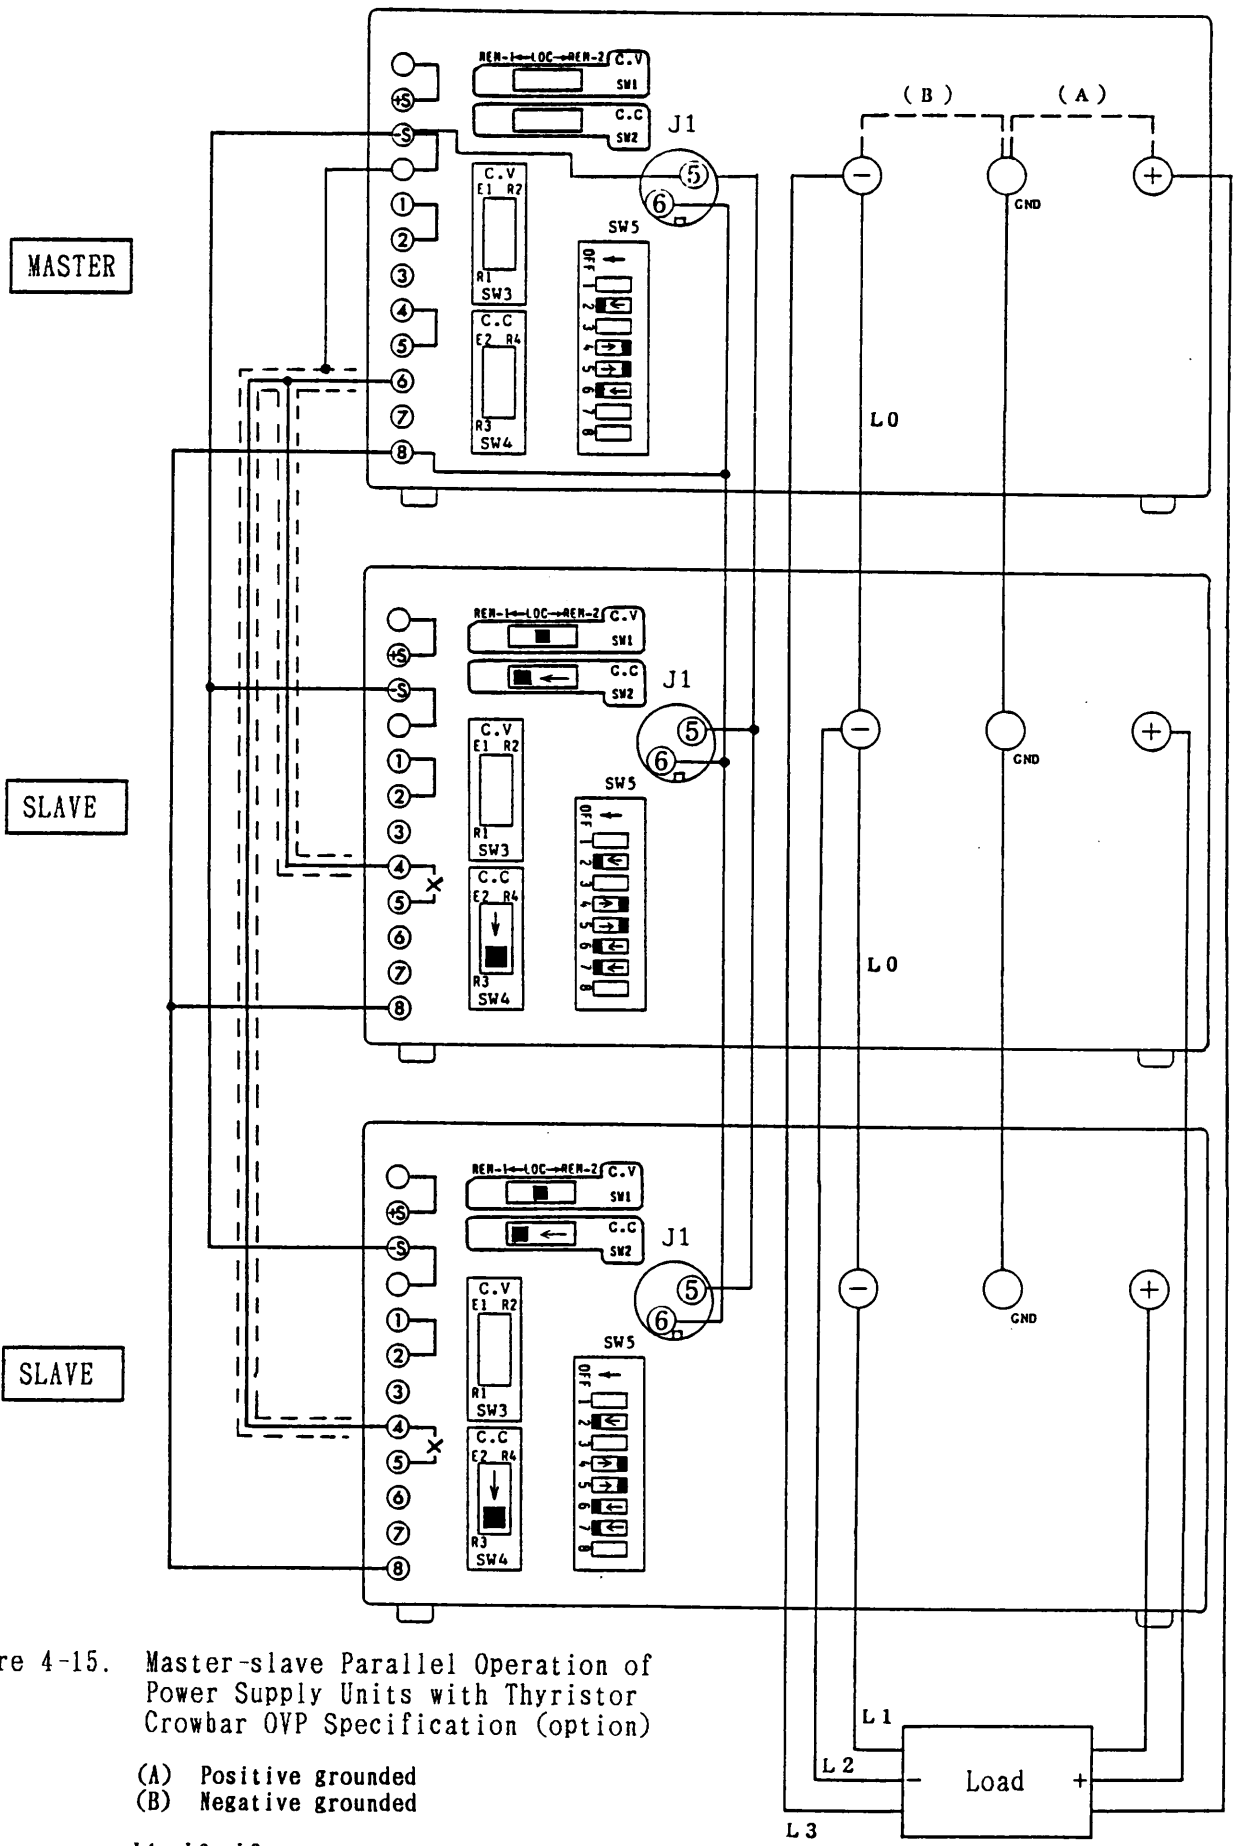

Figure 4-15. Master-slave Parallel Operation of Power Supply Units with Thyristor Crowbar OVP Specification (option)
- (8) Connect in parallel the DIN connector (J1) pins 5 of all units as shown in Figure 4-15.
- (9) Connect in parallel the DIN connector (J1) pins 6 of all units as shown in Figure 4-15.
- (10) Connect in parallel the terminals ⑦ of the rear terminal blocks of all units as shown in Figure 4-15.
- (11) Connect in parallel the ⑤ terminals of the rear terminal blocks of all units as shown in Figure 4-15.
- (12) Connect the DIN connector (J1) pin 5 of the master unit to the ⑤ terminal of the rear terminal block.
- (13) Connect the DIN connector (J1) pin 6 of the master unit to terminal ⑦ of the rear terminal block.
- (14) Turn fully counterclockwise the voltage setting knob of each slave unit.
- (15) For the remote sensing mode or the remote control mode of operation, control the master unit alone.
- (16) For the remote sensing mode of operation, connect in parallel the ⑤ and ⑥ terminals of units and disconnect their jumper wires from between terminals ⑤ and ⊕ and between ⑤ and ⊖ terminals.
- (17) Regarding the switches for which no settings are specified in Figure 4-15, set them to the standard states as shown in Figure 2-19 (See Section 2.4.) or to appropriate states for respective modes (See Sections 4.1 through 4.11.).
- (11) Connect in parallel the DIN connector (J1) pins 5 of all units as shown in Figure 4-15.
- (12) Connect in parallel the DIN connector (J1) pins 6 of all units as shown in Figure 4-15.
- (13) Connect in parallel the terminals ⑧ of the rear terminal blocks of all units as shown in Figure 4-15.
- (14) Connect in parallel the ⑨ terminals of the rear terminal blocks of all units as shown in Figure 4-15.
- (15) Connect the DIN connector (J1) pin 5 of the master unit to the ⑩ terminal of the rear terminal block.
- (16) Connect the DIN connector (J1) pin 6 of the master unit to terminal ⑧ of the rear terminal block.
- (17) Turn fully clockwise the voltage getting knob of each slave unit.
- (18) For the remote control mode of operation, control the master unit alone.
- (19) For the remote sensing mode of operation, connect in parallel the ⑩ and ⑨ terminals of units and disconnect their jumper wires from between terminals ⑩ and ⑨ and between ⑩ and ① terminals.
- (20) Regarding the switches for which no settings are specified in Figure 4-15, set them to the standard states as shown in Figure 2-19 (See Section 2.4.) or to appropriate states for respective modes (See Sections 4.1 through 4.11.).